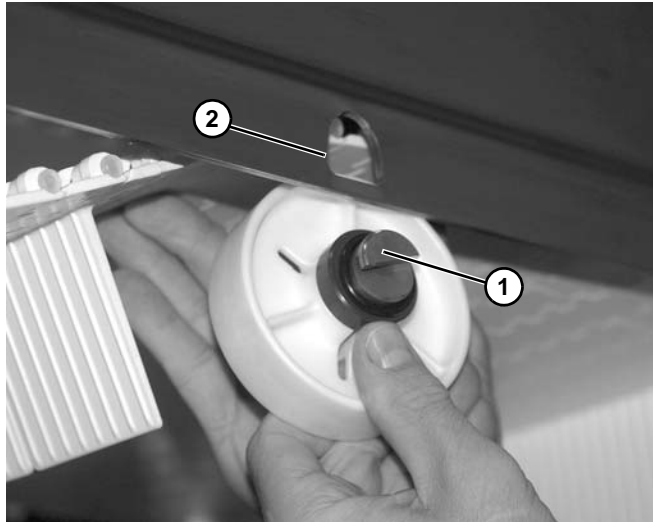

Figure 20
1. Insert the notched end of the return shaft (Figure 20, item 1) through the small hole (Figure 20, item 2) in the inside of the conveyor frame.